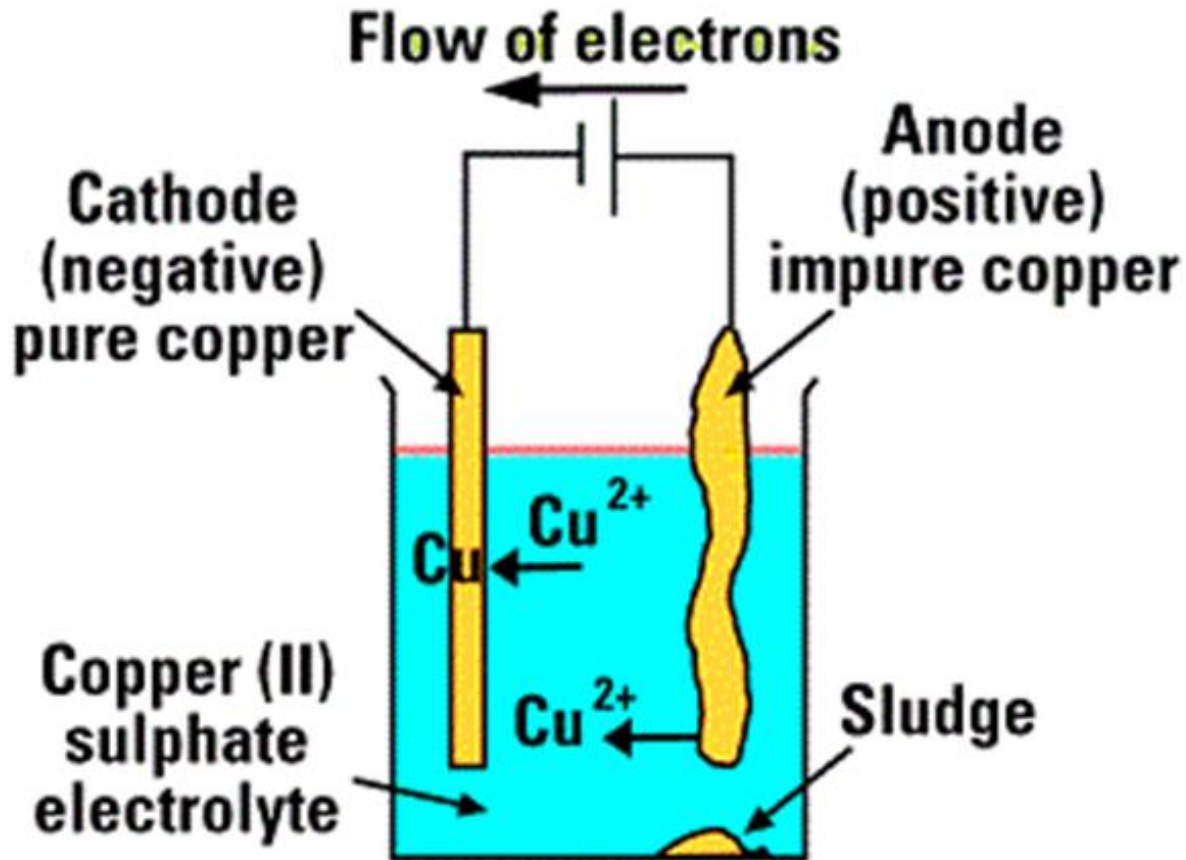

Figure 5.15: Electrorefining cell for copper
- To illustrate the process of electro refining, the example of copper refining is considered (**Figure 5.15**).